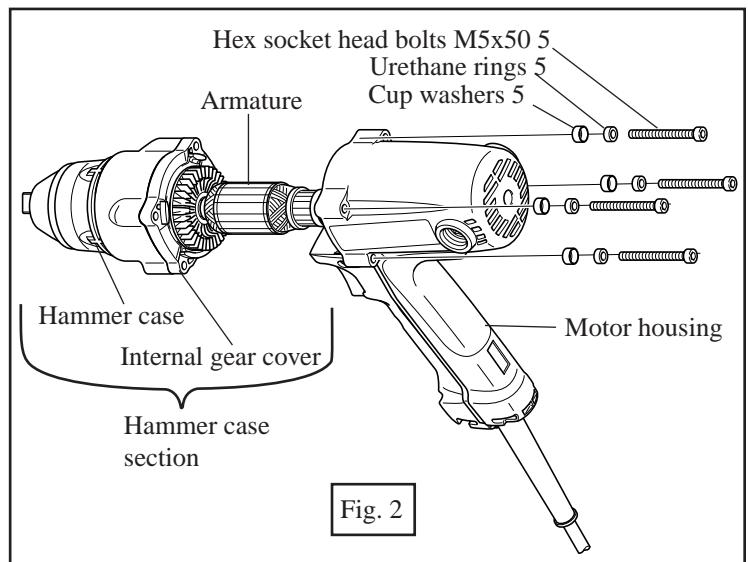

Fig. 2
- (2) Unscrew 4 pcs. of hex socket head bolts M5x50 together with urethane rings and cup washers each 4 pcs. Then, hammer case section can be removed from motor housing together with armature. See Fig. 2.